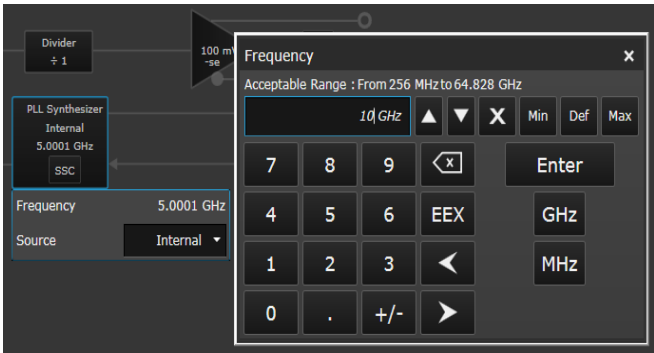

Figure 35 Set frequency to 10 GHz
- d Using the numeric keypad, enter **10** then click on the **GHz** button as shown in **Figure 35** on page -83. If your system has a maximum data rate of 8 Gb/s, leave the frequency setting at 5 GHz.